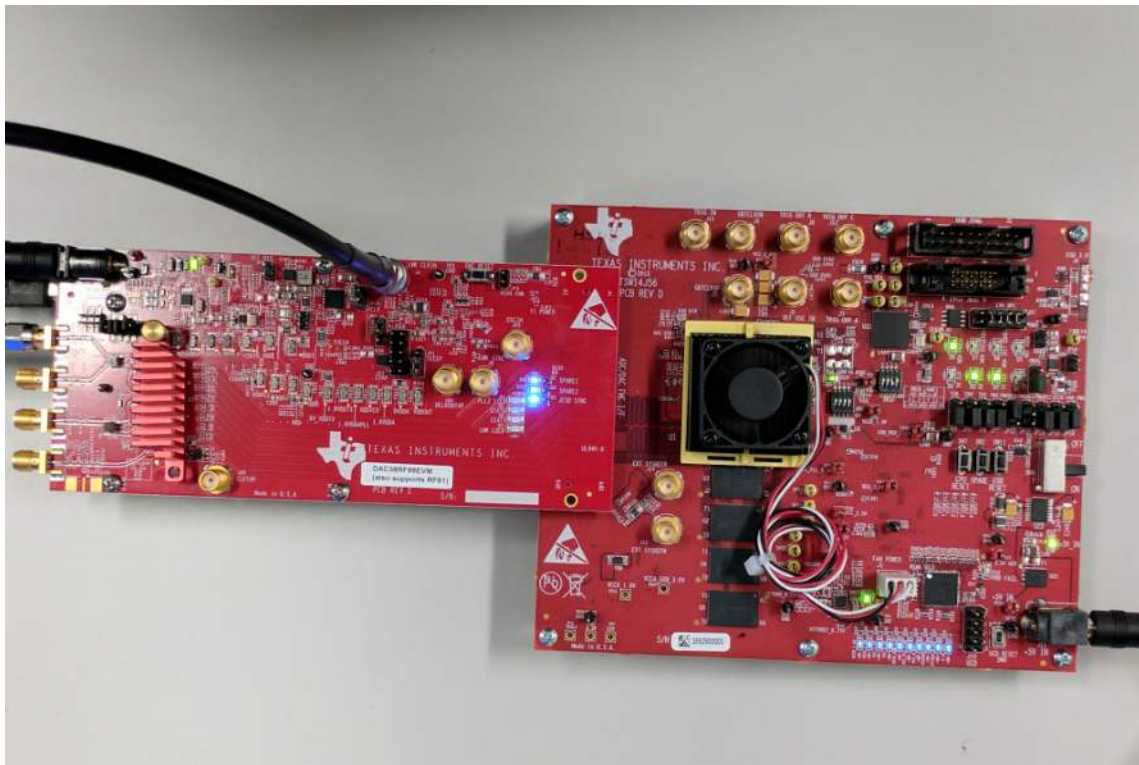

Figure 7. DAC38RF83 EVM Setup for On-Chip PLL Mode
3. Provide a 4–8 dBm external reference clock to SMA J4 as shown in Figure 7. The frequency of this reference clock is set in a later step.